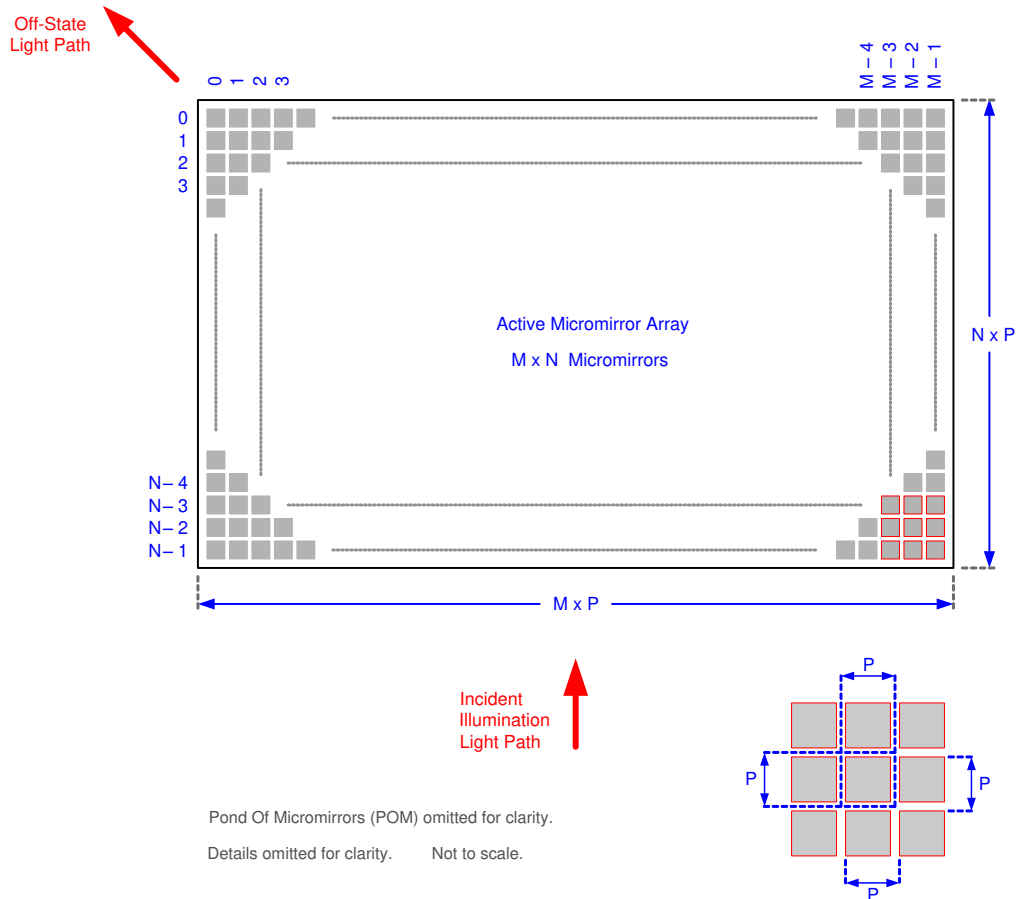

**Figure 6-13. System Mounting Interface Loads**
(1) The load should be uniformly applied in the corresponding areas shown in Figure 6-13.